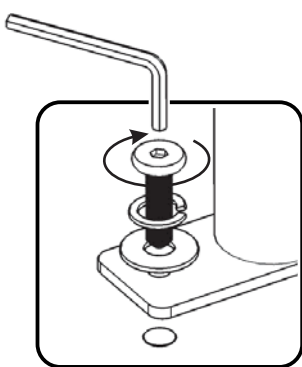

Figure 1
Attach Front Leg (B) to Seat (A) with Flat Washers, Spring Washers, Head Cap Bolts and Flat Head Bolt, tightening the bolts only half way. (See Figures 1 and 2)